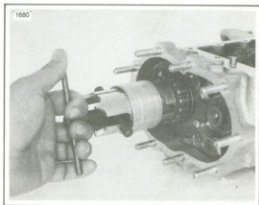

Figure 7-34. Removing Starter Clutch
- See Figure 7-34. Remove the starter clutch using Harley-Davidson's STARTER CLUTCH PULLER, Part No. HD-95650-42.